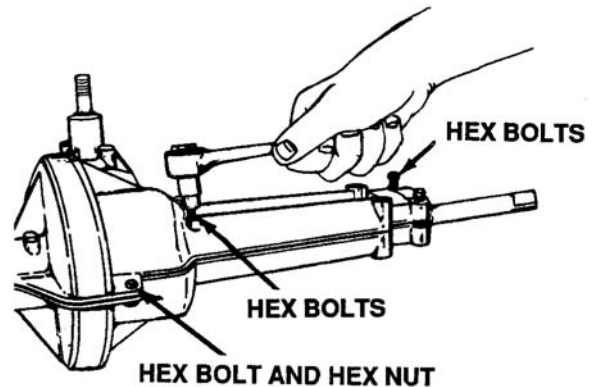

Figure 6-9. Location of Hex Bolts
3. Remove four 1/4-20 x 1.75 inch long bolts from housing (located at the center of transaxle). Remove four 1/4-20 x 1.25 inch long bolts from housing (2 located at each end of the transaxle). See Figure 6-9.